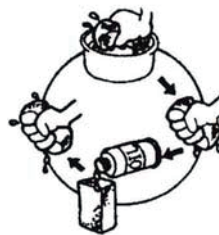

Fig. 18
3.3.3 If the core is dirty, have it cleaned in the following way. (Figure 18)